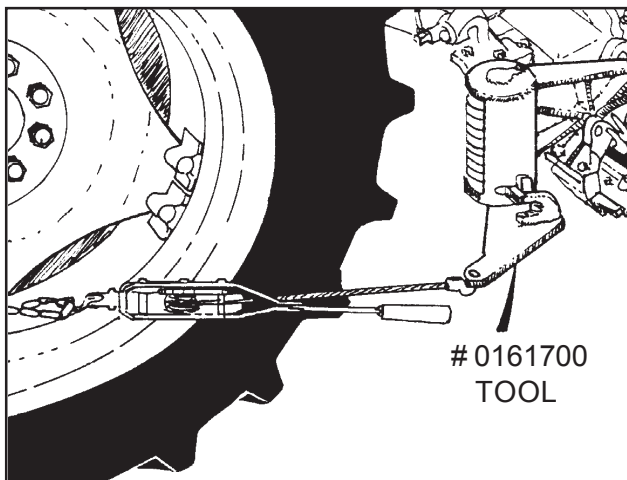
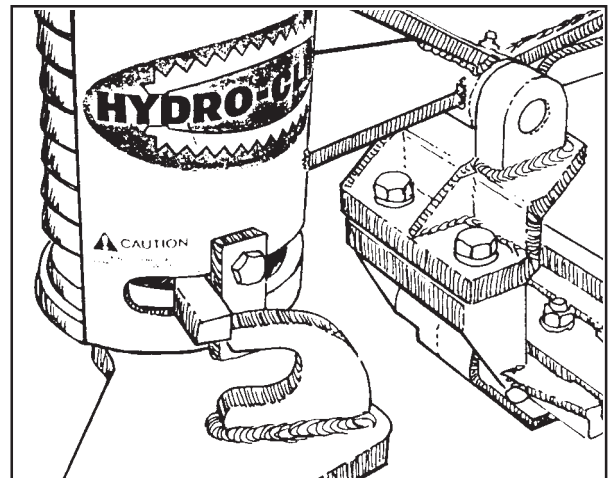

FIGURE 1
FIGURE 2
1. DO NOT ATTEMPT this without Tool # 0161700 (Old # 1617) and following Instructions as shown in Figure 1 and Figure 2. Tool No. 0161700 is Optional Purchase & not furnished with Units.
1. **PUMPS** (See Figure 1)